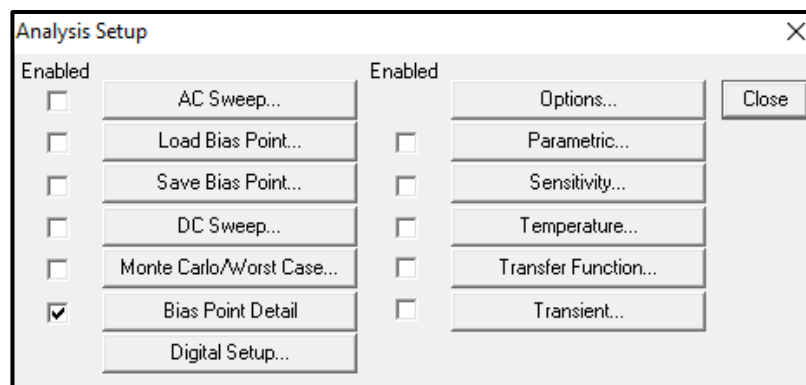

Figure.15
- The window shown in figure.15 will show up: